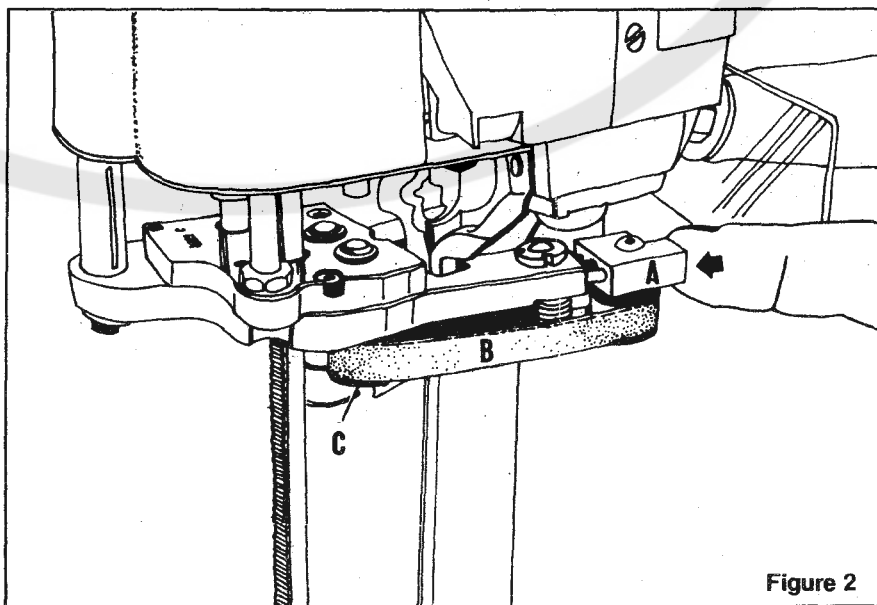

Figure 2
2.5 TO CHANGE FLEXIBANDS (Figures 2 and 3)
- a) Figure 2: Push Block "A" to release right (upper) FlexiBand "B." Remove FlexiBand from Block and then from Drive Pulley "C."